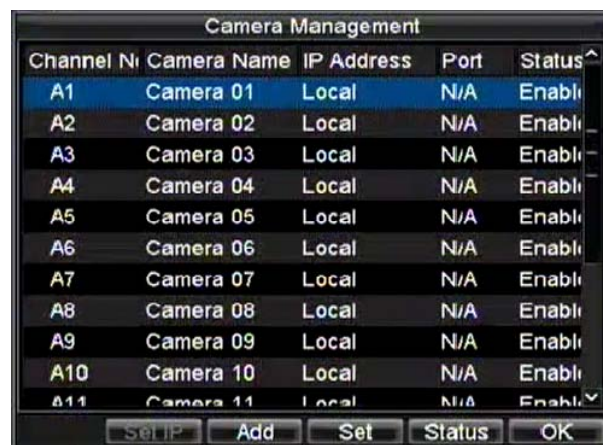

Figure 12. Camera Management Menu of DS-9000
1. Enter Camera Management/Settings menu (Figure 12) by clicking Menu > Setting > Camera.